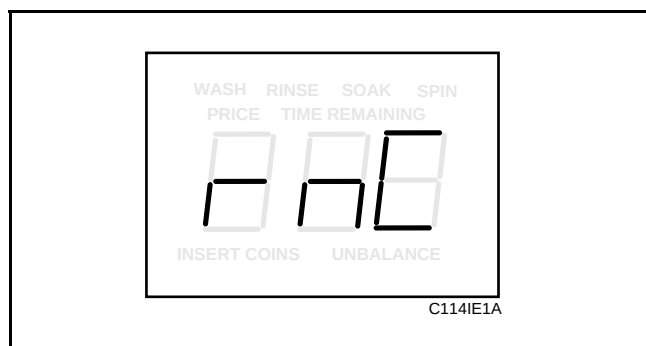

Figure 29
3. Press the DELICATES (+) pad or the COLD (–) pad to scroll through the programmable options until “rnC” appears in the VFD. See **Figure 29**.